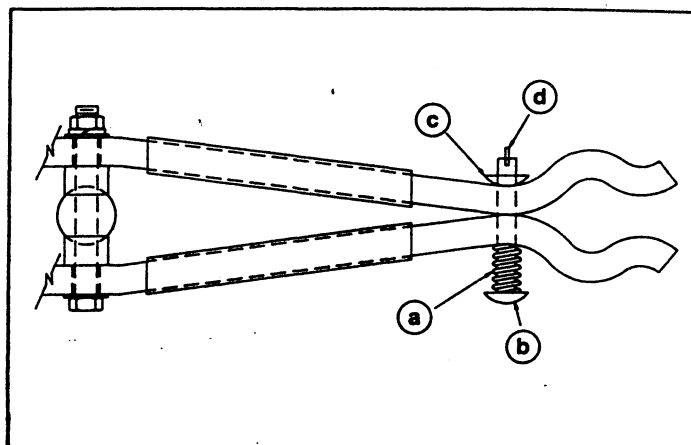

Figure 27. Primary Disconnect Finger Spring Assembly
- 1. Remove the primary contact springs at the outer end of the horizontal primary disconnect bars (Figure 27).
These springs are located at the outer end of the primary contact bars (See Figure 27, Page 22). To replace them: